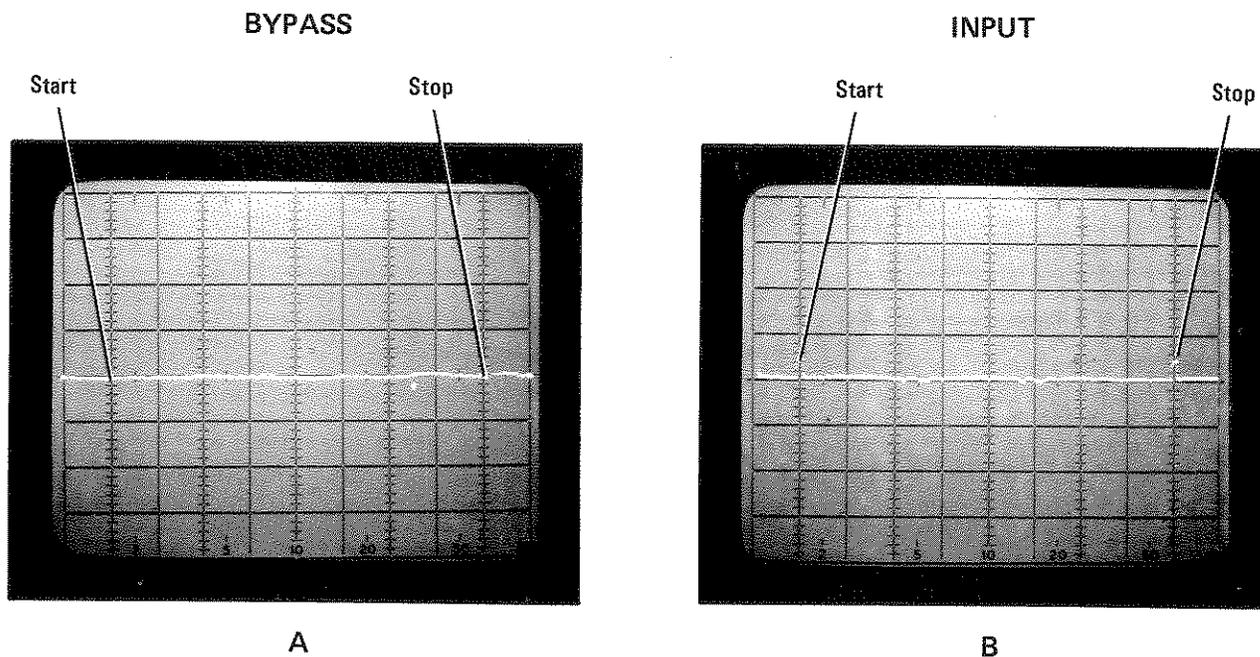

Figure 3-10. Adjustment of START and STOP Markers
- j. (Omit this step if your Sweep Oscillator does not have intensity marker capability.) Set the sweep oscillator for INTENSITY markers. As shown in Figure 3-10, set the START marker one graticule line to the right of the far left graticule line. Set the STOP marker one graticule line to the left of the far right graticule line. Adjust the CW marker off the CRT screen.